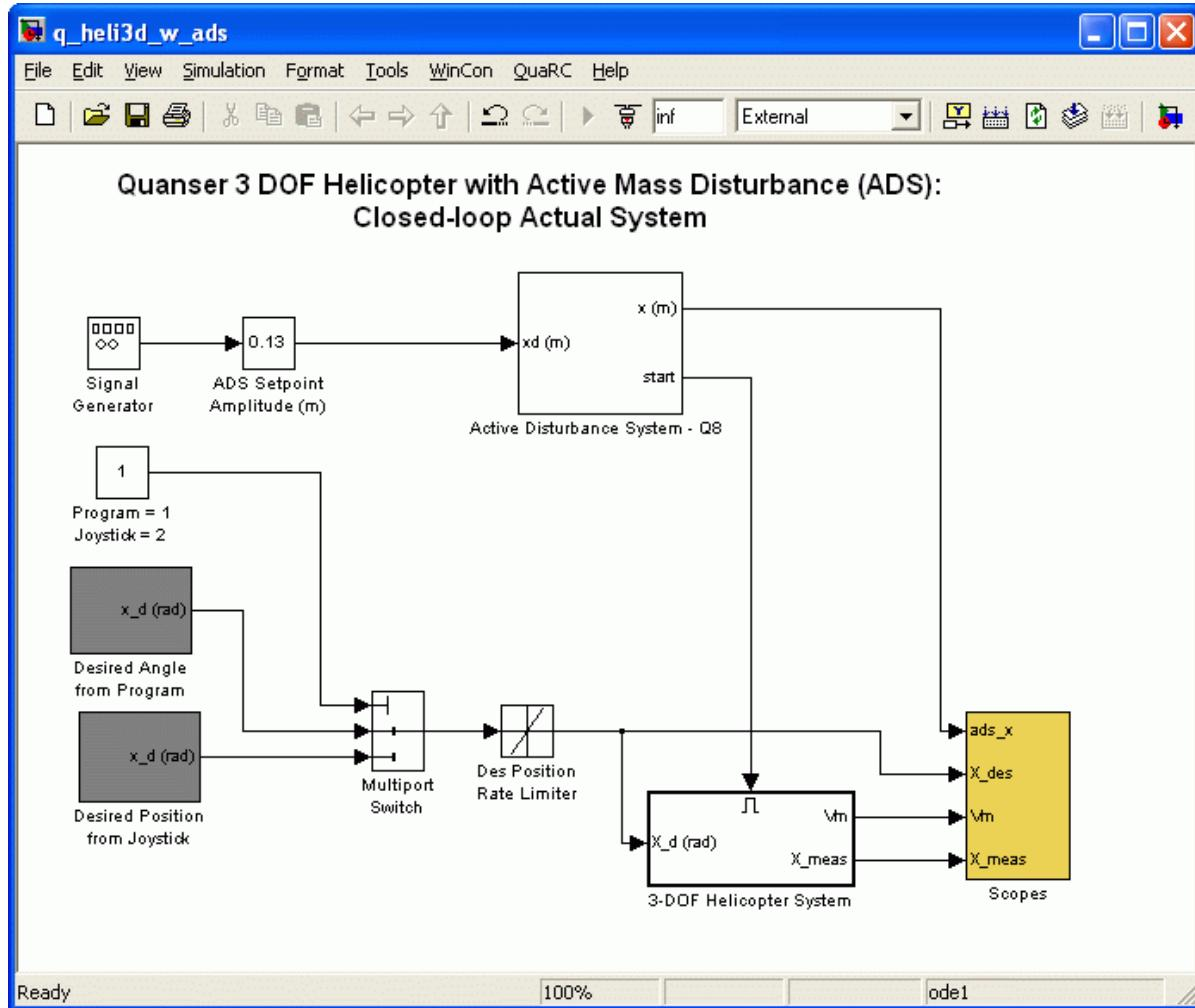
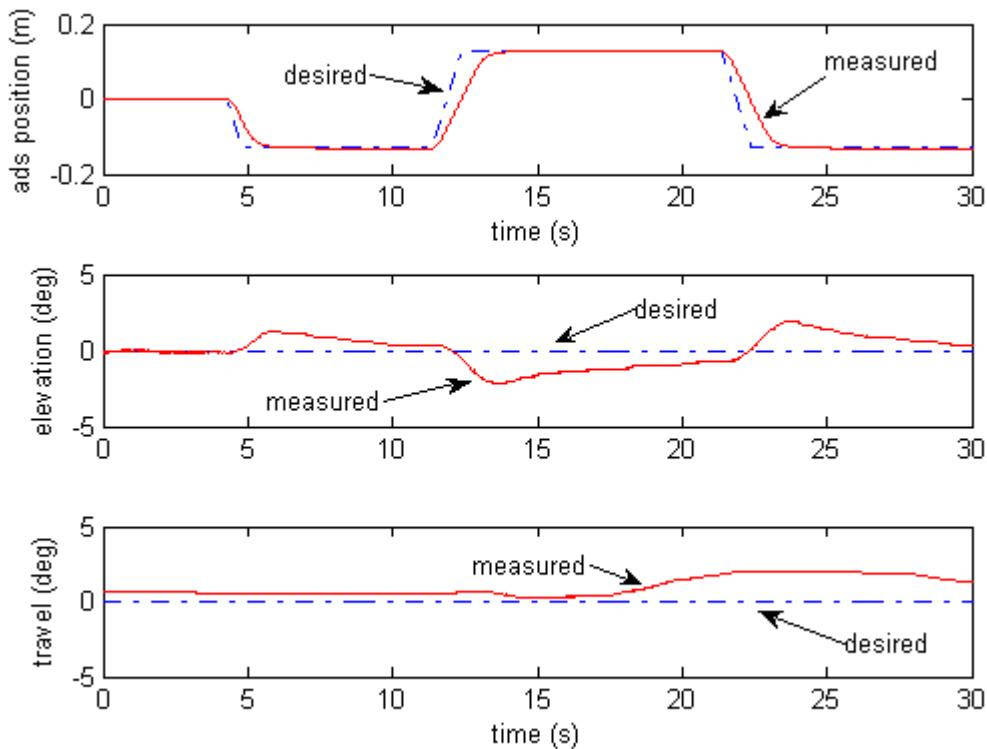

Figure 31: Simulink model *q\_heli3d\_w\_ads\_q8* implements an LQR controller on the 3-DOF Helicopter with Active Disturbance system.
Figure 32: Closed-loop response of 3-DOF Helicopter ADS device.
1. Open Simulink model *q\_heli3d\_w\_ads.mdl* shown in Figure 31 that implements a sample LQR controller on the 3-DOF Helicopter with ADS plant. The model runs your actual 3-DOF Helicopter w/ ADS plant by directly interfacing with your hardware through the QuaRC blocks,
5. Open the *elevation (deg)*, *travel (deg)*, and *Vm (V)* scopes from the *Scopes* folder. These scopes display both the desired and measured angles of the Helicopter as well as the voltages being applied to the front and back motors.
8. In the *q\_heli3d\_ads* Simulink diagram, make sure the *Program/Joystick* block shown in Figure 31 is set to 1 in order to generate the desired angle from Simulink.
12. In the *Vm (V)* scope, the green line is the front motor voltage and the red trace is the back motor voltage. These should be within  $\pm 25V$  and not go negative very often.
14. Figure 32 below depicts the measured closed-loop position response of the 3-DOF Helicopter with the ADS when the disturbance mass is moving between  $\pm 0.13$  meters at 0.05 Hz.
15. Alternatively, the desired angle can be generated using a joystick - either the analog or USB described in Section 5.5. To use the joystick, set the Program/Joystick switch shown in Figure 31 to 2. The rate at which the desired angle increases or decreases given a joystick position can be changed using the K\_JOYSTICK\_X and K\_JOYSTICK\_Y variables that are set in the setup\_lab\_heli\_3d.m script file.